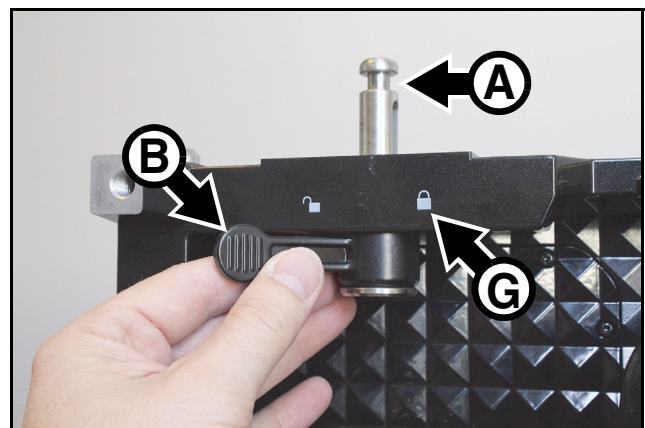

Figure 13: Locking vertical connection posts
6. See Figure 13. In the top of the panel, turn the locking levers **B** on both the vertical connection posts **A** to the **Locked** position **G**.
10. See Figure 13. In the top of the second panel, turn the locking levers **B** on the vertical connection posts **A** to the **Locked** position **G**.